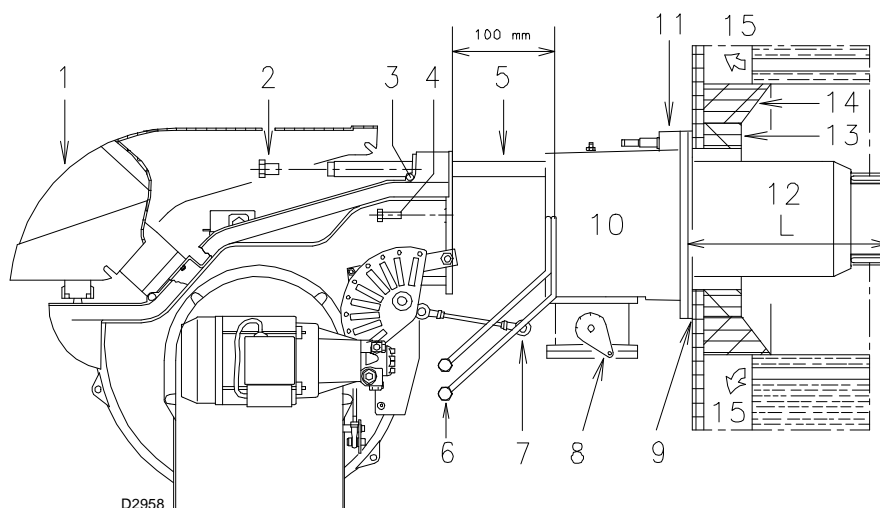
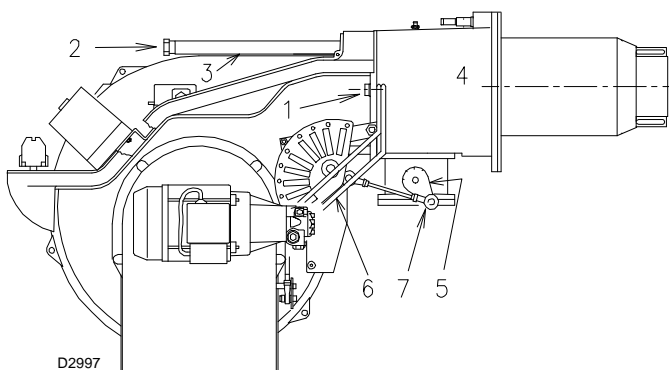

Fig. 10
Fig. 15
For boilers with front flue passes 15)(Fig. 10) or flame inversion chambers, protective fettling in refractory material 13) must be inserted between the boiler fettling 14) and the blast tube 12).
For boilers having a water-cooled front the refractory fettling 13)-14)(Fig. 10) is not required unless it is expressly requested by the boiler manufacturer.
- disconnect the oil pipes by unscrewing the two connectors 6)(Fig. 10).
- Refit the burner to the slide bars 3)(Fig. 15) at approximately 100 mm from the sleeve 4) - burner positioned as shown in Fig. 10 at page 16;
- insert the ignition electrode cables and then slide the burner up to the sleeve so that it is positioned as shown in Fig. 15.
- Refit screws 2)(Fig. 15) on slide bars 3).
- Connect the oil pipes again by screwing on the two connectors 6)(Fig. 10 at page 16).